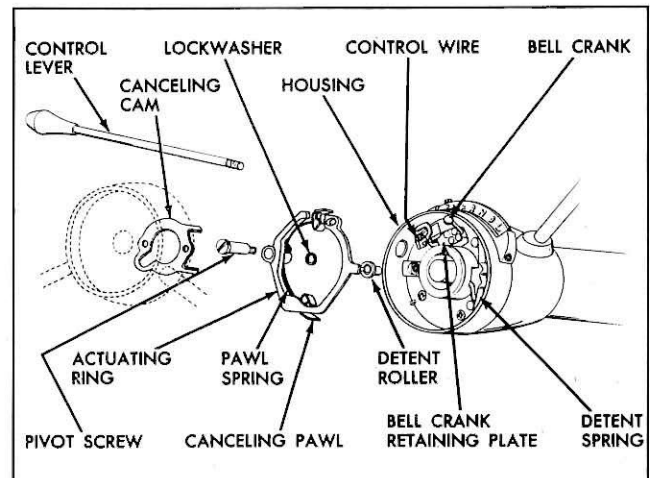

Fig. 14—Exploded View Turn Signal Parts
14. Move the flexible control cable loop off the end of the bell crank (fig. 14).
NOTE: Make sure lockwasher is in place between ring and housing and that the bell crank is in the provided slot (fig. 14).